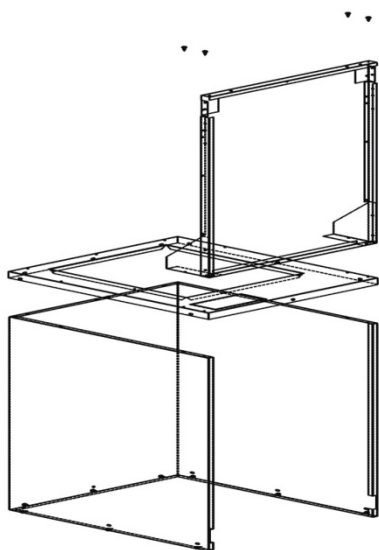

Figure 10: Return Air Grille Frame Assembly
5. Set the return air grille frame assembly on the top – front part of the furnace. Be sure to line up the screw holes in the frame with the screw holes in the furnace top cover as shown in Figure 10.